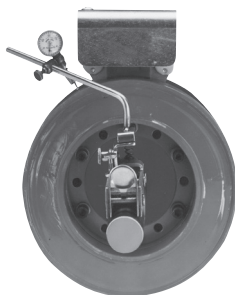

Figure 4
4. Use a dial indicator to check the unit for concentricity and squareness to the shaft. The unit should be concentric within .010 T.I.R. and square within .006 T.I.R. (Figure 4)